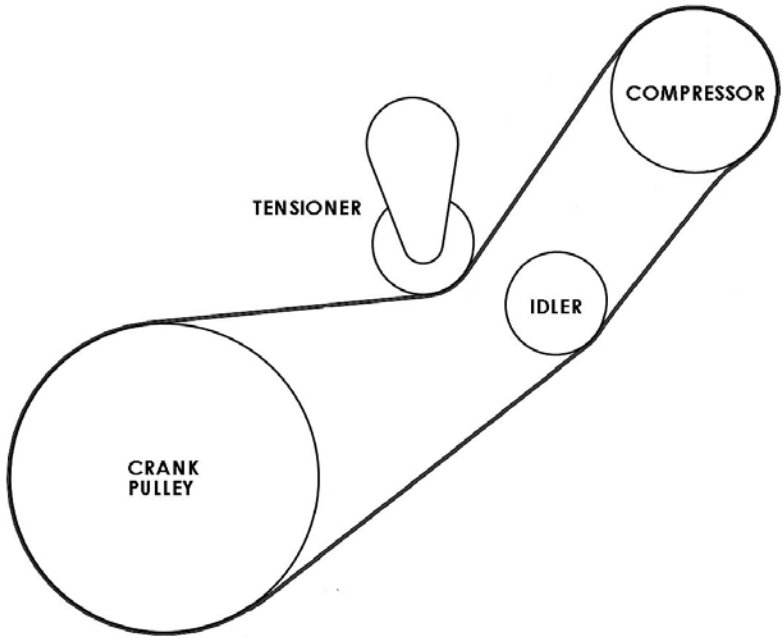

Figure 4.3 – VR belt routing
- Install the VMAC VR belt (Figure 4.3) visually check belt alignment to make sure that it is correct.